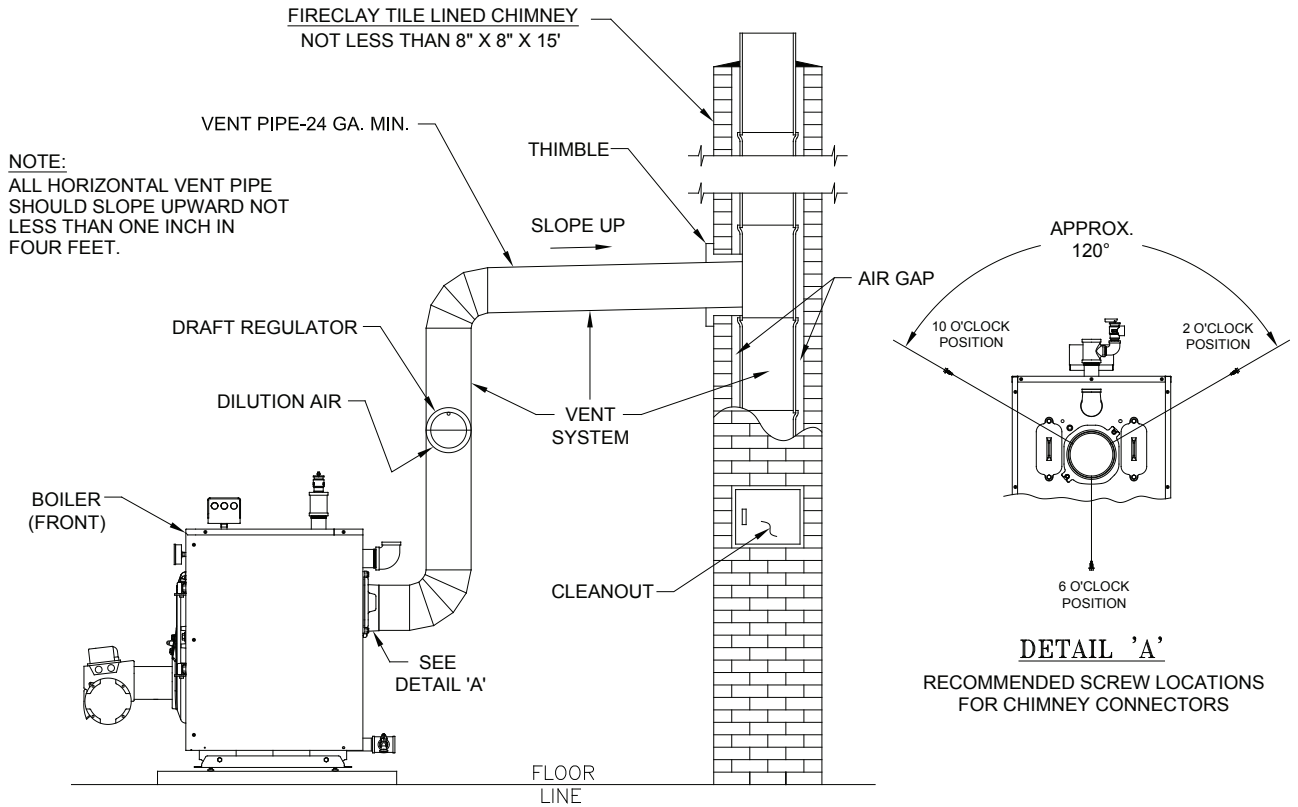

Figure 13: Recommended Vent Pipe Arrangement and Chimney Requirements
5. Draft Regulator – a draft regulator (not supplied with boiler) must be used with this appliance. Refer to Figures 13 and 14.